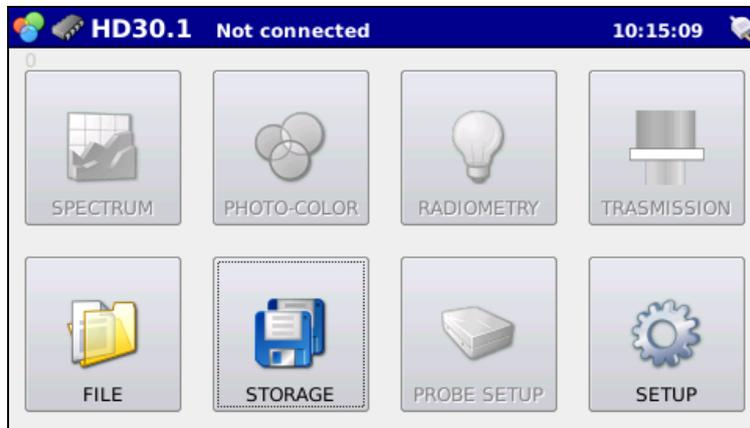

Fig. 4.1: STORAGE and FILE buttons allow measurements to be monitored and recalled.
tons in the main screen (fig. 4.1)
4.4 Press to return to the main screen (Fig. 4.1).
4.5 Press in the main screen to display stored measurements (fig. 4.1).